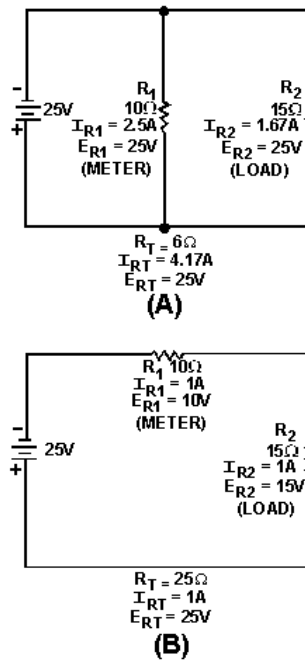

Figure 1-25.—Current and voltage in series and parallel circuits.
While ammeters are always connected in series, voltmeters are always connected in parallel. Figure 1-25 (and the following figures) use resistors to represent the voltmeter movement. Since a meter movement can be considered as a resistor, the concepts illustrated are true for voltmeters as well as resistors. For simplicity, dc circuits are shown, but the principles apply to both ac and dc voltmeters.
Figure 1-25(A) shows two resistors connected in parallel. Notice that the voltage across both resistors is equal. In figure 1-25(B) the same resistors are connected in series. In this case, the voltage across the resistors is not equal. If R_1 represents a voltmeter, the only way in which it can be connected to measure the voltage of R_2 is in parallel with R_2 , as in figure 1-25(A). **LOADING EFFECT**